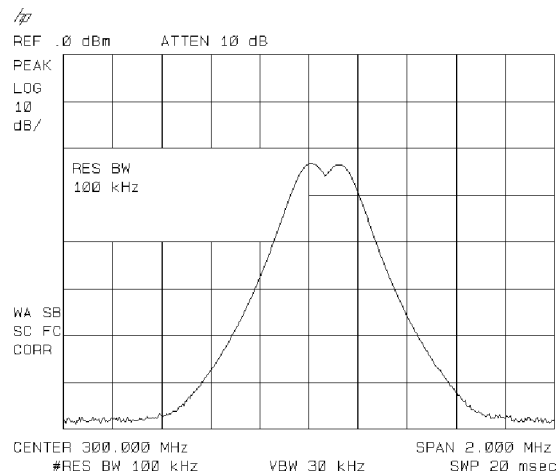

Figure 6-2. Resolving Signals of Equal Amplitude
Generally, to resolve two signals of equal amplitude, the resolution bandwidth must be less than or equal to the frequency separation of the two signals. If the bandwidth is equal to the separation a dip of approximately 3 dB is seen between the peaks of the two equal signals, and it is clear that more than one signal is present. See Figure 6-2.
4. Since the resolution bandwidth must be less than or equal to the frequency separation of the two signals, a resolution bandwidth of 100 kHz must be used. Change the resolution bandwidth to 100 kHz by pressing **BW** 100 **kHz**. Two signals are now visible as in Figure 6-2. Use the knob